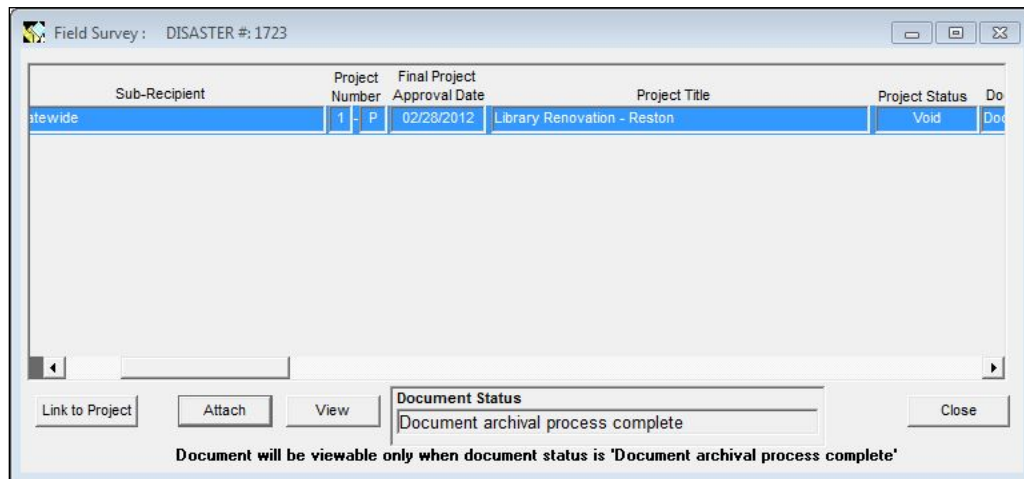

Figure 11-7: Field Survey Screen with New Document - Right Side
8. Highlight the row of the document you attached. Click the LINK TO PROJECT button (Figure 11-7).